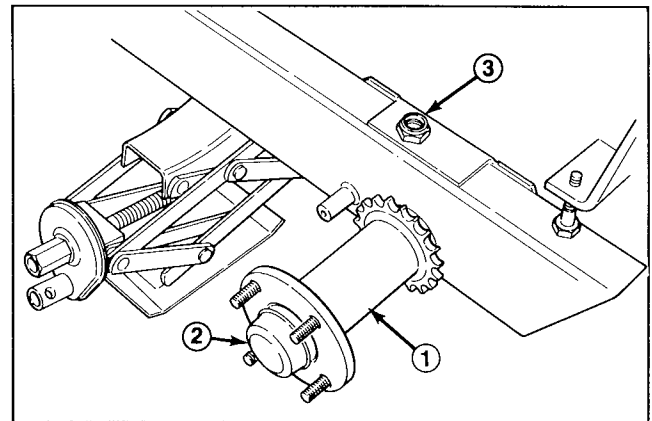

Figure 4
1. Insert wheel spindle shaft through chassis and secure with a locknut (Fig. 4). Dust cap may have to be removed to hold slotted hex nut when tightening locknut.